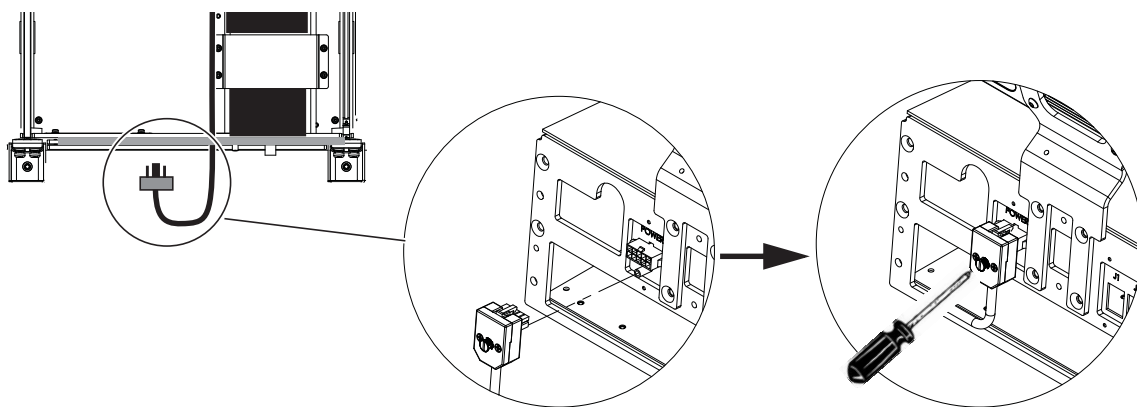

Figure 13. Connecting the cable terminal at the Back Tie Plate
- 2 Connect the cable terminal end from the outside back of the chassis to the power terminal connector on the Back Tie Plate as shown in Figure 13. Use a small flathead screwdriver to secure the plug to the terminal.